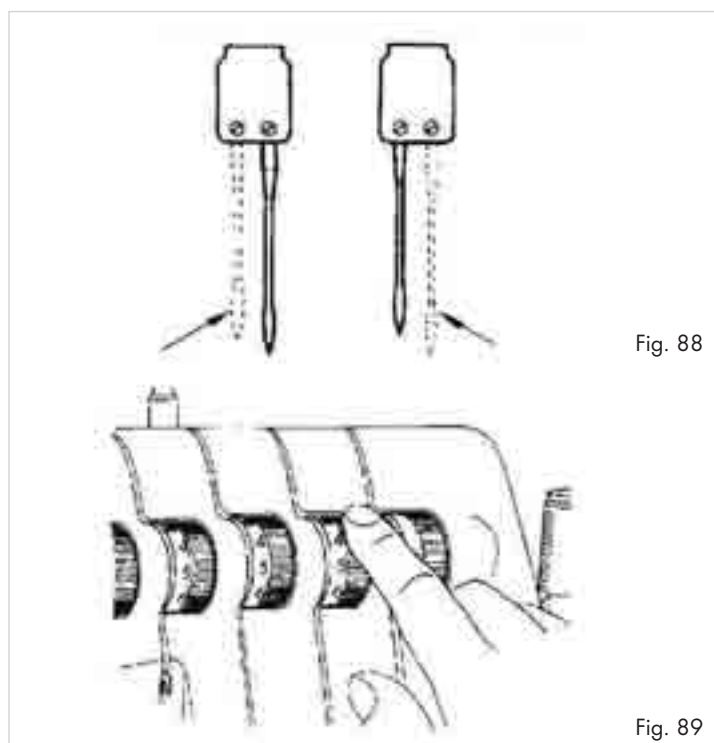

Fig. 88
1. Remove the right or the left needle (Fig. 88).